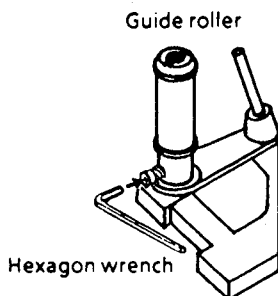

Figure 4-33.
- b) Loosen the setscrew at the lower part of the guide roller, and adjust it with an adjusting screw driver (JIGDRIVERH-4) so that the guide roller turns smoothly. (Do not overloosen the setscrew, which causes insecurity of the guide roller.) (See Figure 4-33.)